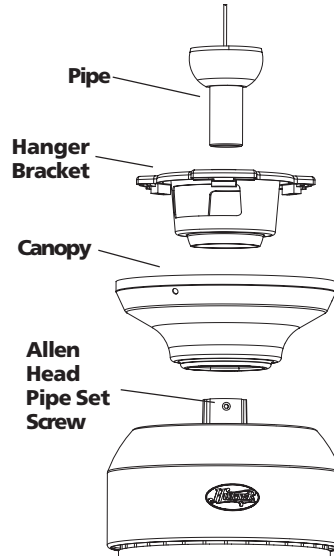

Figure 3 - Inserting Pipe through Hanger Bracket and Canopy
2. Screw pipe into fan assembly until tight. **IMPORTANT!** Tighten allen head pipe set screw as shown in Figure 3 with the included allen wrench.